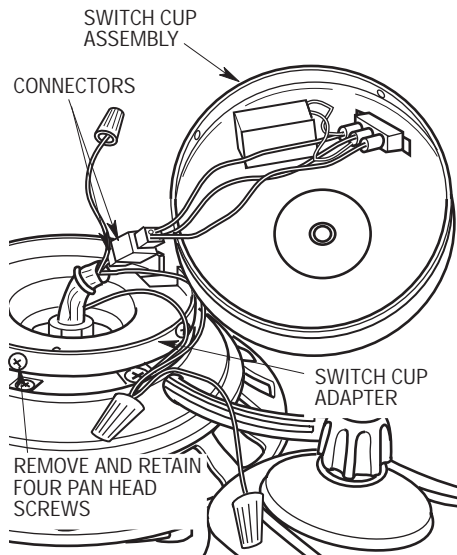

Figure 3
- 3. Carefully rest the switch cup assembly on the fan blades, then engage the connector of the switch cup assembly with the motor connector (Figure 3). The two connectors are keyed and must be mated correctly before they can be engaged. Make sure the connectors are engaged properly.
- 4. Remove and retain four pan head screws from the rim of the switch cup adapter (Figure 3).